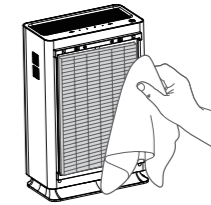
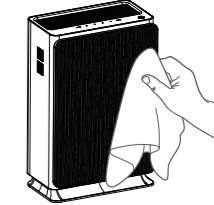

Figure 2
Figure 3
5. Wipe the surface of the filter and the surface of the cover with a soft cloth.[Figure 2][Figure 3]